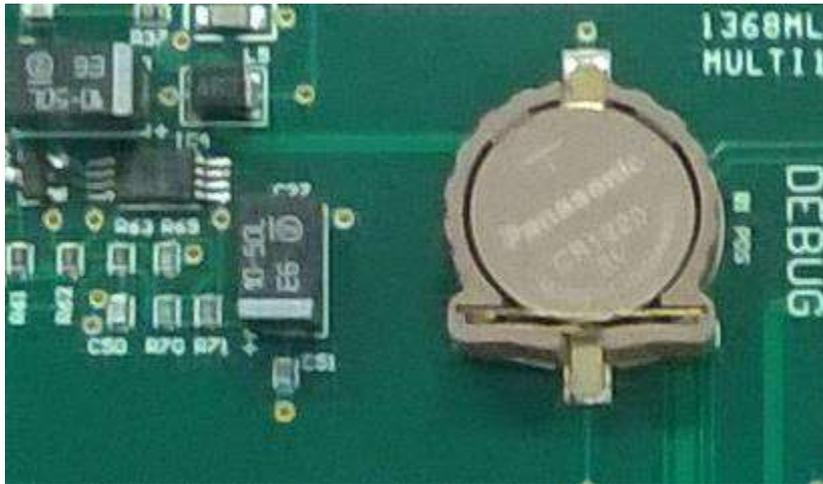

Figure 174 RTC Battery Orientation
6. Note the orientation the existing battery, see Figure 174 (the positive terminal is facing outwards)